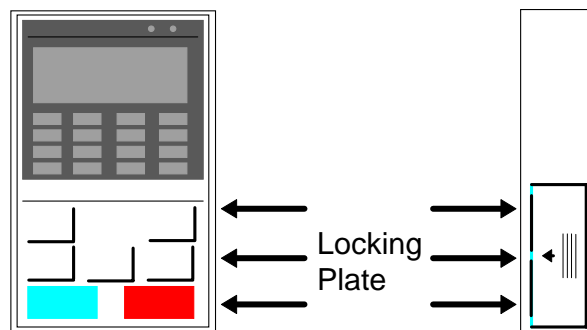

Figure 2. Operator Removal
- Step 1.** Remove the digital operator, applying pressure to the locking plate on its lower right side, as illustrated in Figure 2. Lift the operator out by pulling forward.